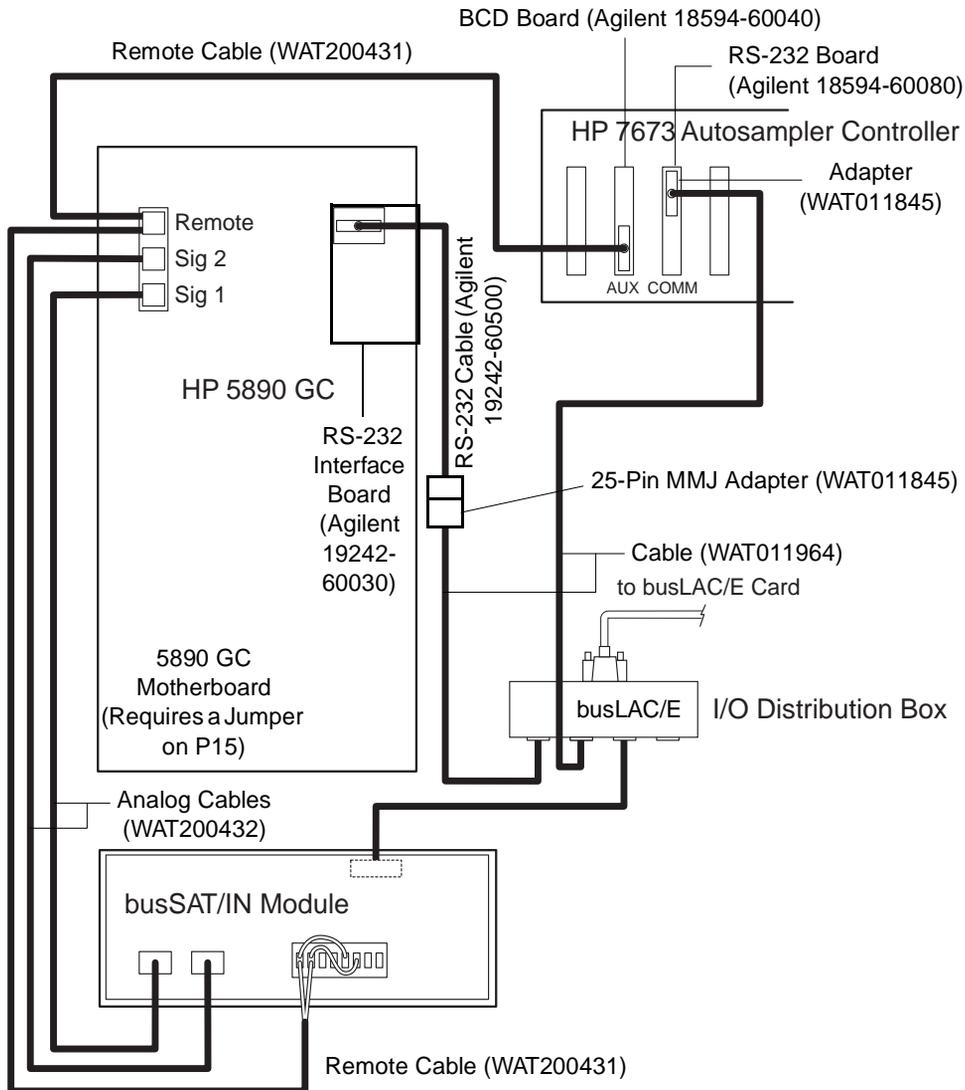

Figure 2-5 Connecting a 5890 GC, 7673 Controller, and busSAT/IN to a busLAC/E Card
You can use the busSAT/IN Module to convert analog output from the GC detector to digital data for processing by the Empower system. The busSAT/IN Module can reside on the busLAC/E or an 8-port serial card. Figure 2-5 shows a busLAC/E 5890 set up for control through Empower software (digital data) as well as collection of the GC analog data.
Figure 2-5 shows the cable connections for a 5890 GC and a 7673 Controller with analog data acquisition through a busSAT/IN Module.
**Note:** The jumper wires shown on the busSAT/IN Module events connector block are required to allow data collection on both analog channels using one trigger input (see Figure 2-5). Connect the black wire on the trigger cable to the positive (+) terminal on the busSAT/IN Module, and connect the red wire to the negative (–) terminal on the busSAT/IN Module.